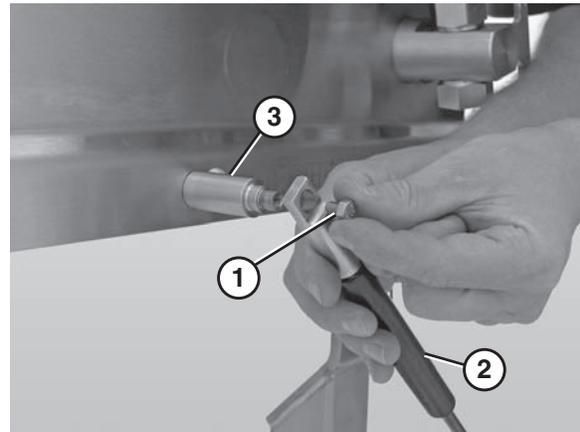

Figure 87
- Remove the hex bolt (**Figure 87, item 1**) that connects the gas spring (**Figure 87, item 2**) to the gas spring standoff post (**Figure 87, item 3**).
- Remove the inside hex bolt that connects the standoff post (**Figure 87, item 3**) to the frame.